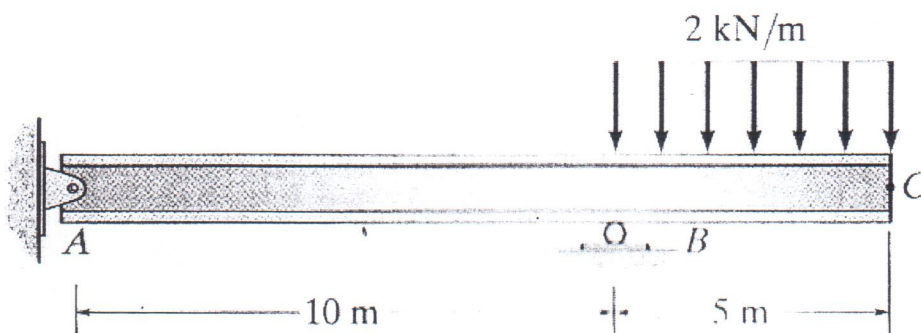

Figure 2.
- (2) The loaded beam shown in **Figure 2** is made of A-36 steel for which $E = 200 \text{ GPa}$ and $I = 70 \times 10^6 \text{ mm}^4$. Determine the displacement at C and the slope at A and B .